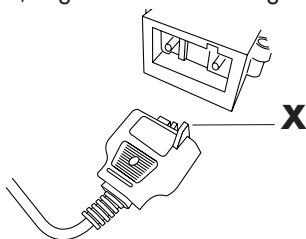

fig.12
First fit the magnetic connector to the appliance, as seen in Figure 12, making sure that the protruding part of the connector (X) is correctly inserted in the corresponding slot on the appliance, and then plug the cable into the power outlet.
does not remain in place, check that it has been inserted correctly, see Figure 12. If the problem persists, contact an authorized service center. When the appliance is powered, always leave some free space around the magnetic connector, so as to prevent it from becoming detached. "Only use a type LT-512 or TA-35PA cord set (see label attached on the back of the product) supplied by De'Longhi authorized service centers".